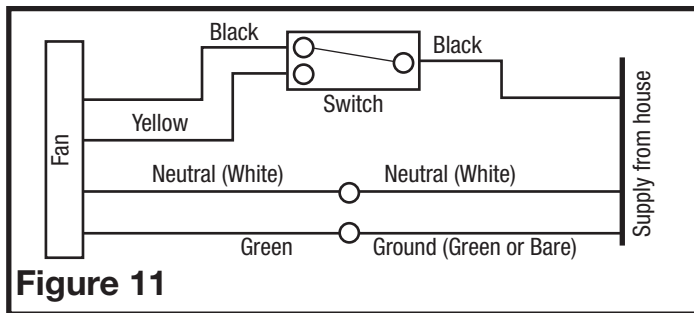

Figure 11
- 4b. Connect the white wire from the house to the white wire from the fan. Connect the ground wire from the house to the green wire from the fan housing (Figure 11). Use approved methods for all connections.